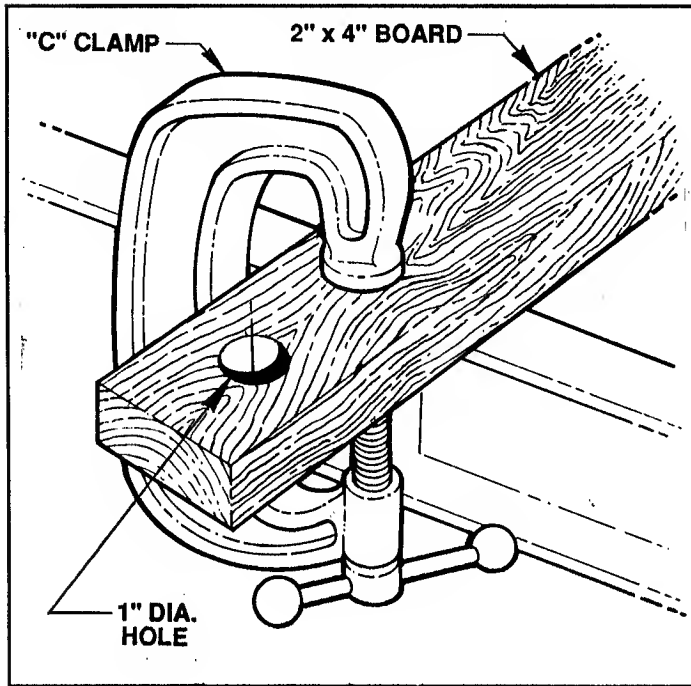
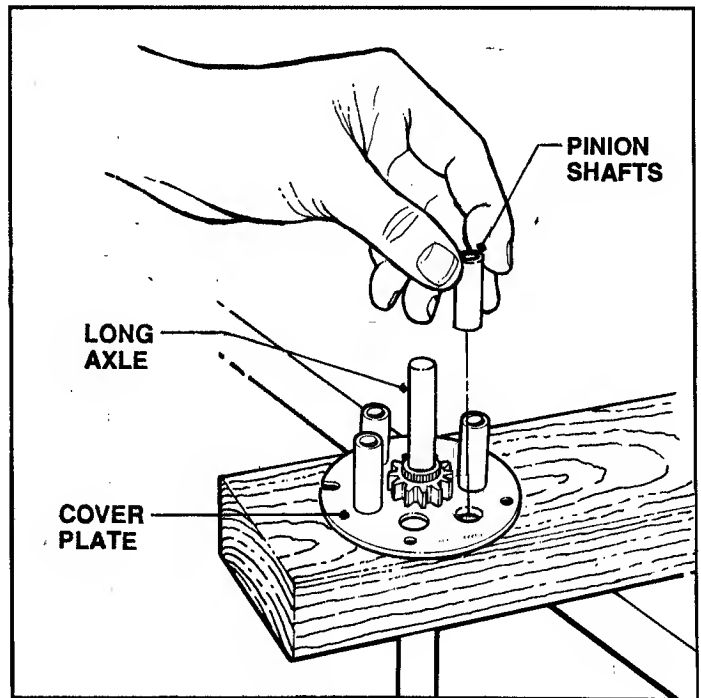

FIGURE 4.7
FIGURE 4.8
2. Drill a 1" hole through board if using. See Figure 4.7.
4. If reassembling in hand, insert two of the 4-1/2" long capscrews in one of the cover plates and hold in hand with screws up as shown in Figure 4.8. If using the 2 x 4, install all four capscrews and place plate over hold drilled in the board. Refer to Figure 4.7.
5. Insert long axle through center hole in plate with pin facing up. Refer to Figure 4.8.
6. Lightly grease the four pinion shafts, then install in cover plate. Refer to Figure 4.8.